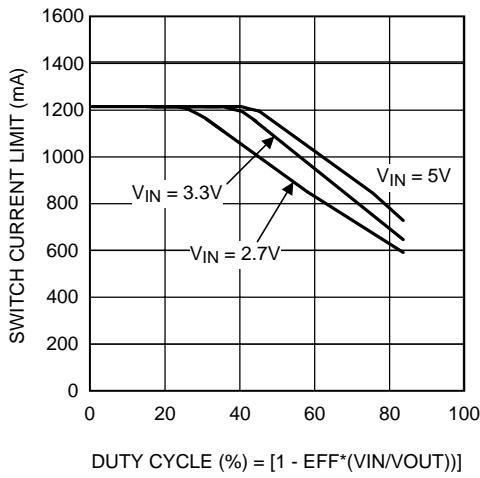

Figure 15. Switch Current Limit vs Duty Cycle
- (1) Switch current limit is dependent on duty cycle. Limits shown are for duty cycles $\leq 50\%$. See Figure 15.
The maximum FET switch current available before the current limiter cuts in is dependent on duty cycle of the application. This is illustrated in Figure 15 which shows typical values of switch current as a function of effective (actual) duty cycle: